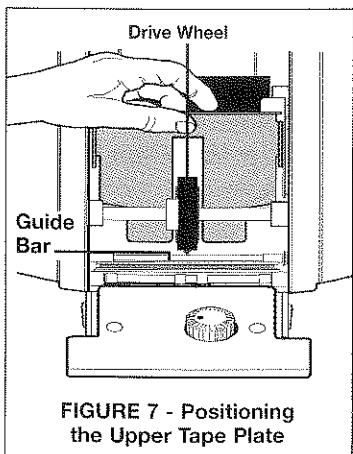

FIGURE 7 - Positioning the Upper Tape Plate
1. Hold the upper tape plate by its rear edge (*see Figure 7*), and guide it forward so that the front slot centers around the drive wheel.